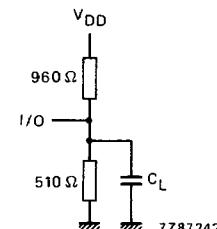

Fig. 4 Load for a.c.
$V_{DD} = 5 \text{ V} \pm 0,5 \text{ V}$; $V_{SS} = 0 \text{ V}$; $T_{amb} = -25 \text{ to } +70 \text{ }^{\circ}\text{C}$; measured in Fig. 4, $C_L = 100 \text{ pF}$; unless otherwise specified
A.C. TEST CONDITIONS (see Fig. 4)